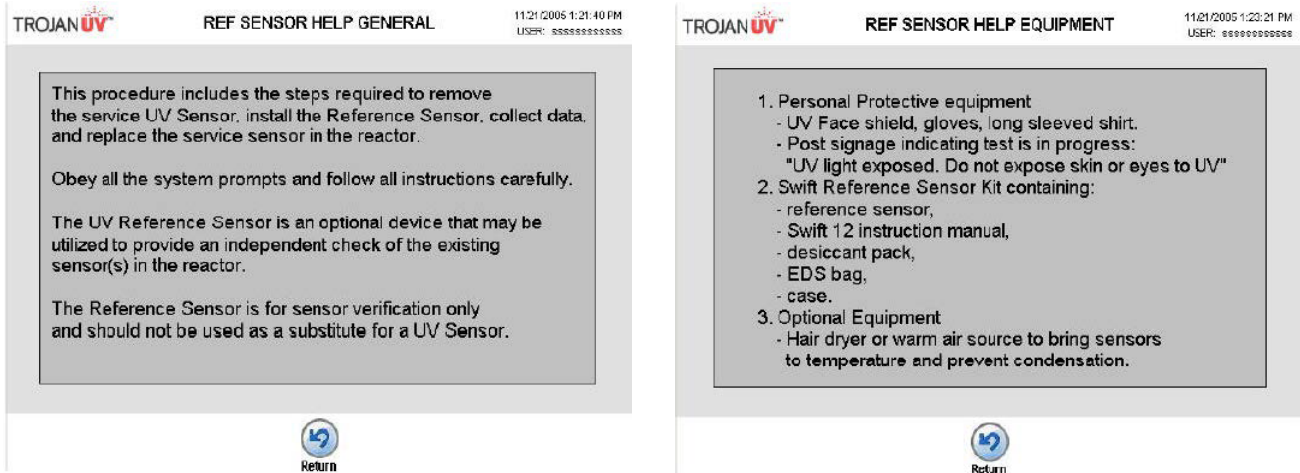

Figure 2 Reference Sensor Help General and Equipment Screen
- At the "Sensor Overview" screen, select the "Reference Sensor Procedure ENTRY" button. At the "Ref Sensor Introduction" screen, select the "Help" button to display the "General Information" and "Equipment Required" help buttons. Refer to Figure 2. Read both screens to prepare for the procedure. Press "Return" to return to the "Ref Sensor Introduction" screen and press "PROCEED" when ready.